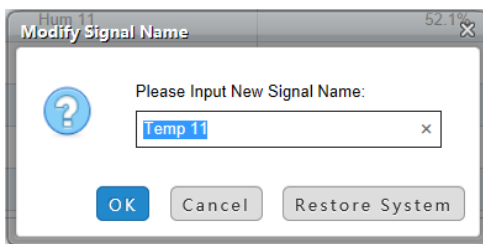

Figure 3-22 Modifying signal name
2. You can click the corresponding signal name for modifying or restoring, as shown in Figure 3-22.
2. For the name of **Setting** signals (except ENV-TH and ENV-4DI), you can click the corresponding signal name for modifying or restoring, as shown in Figure 3-22.
2. For the name of **Alarm** signals (except ENV-TH and ENV-4DI), you can click the corresponding signal name for modifying or restoring, as shown in Figure 3-22.